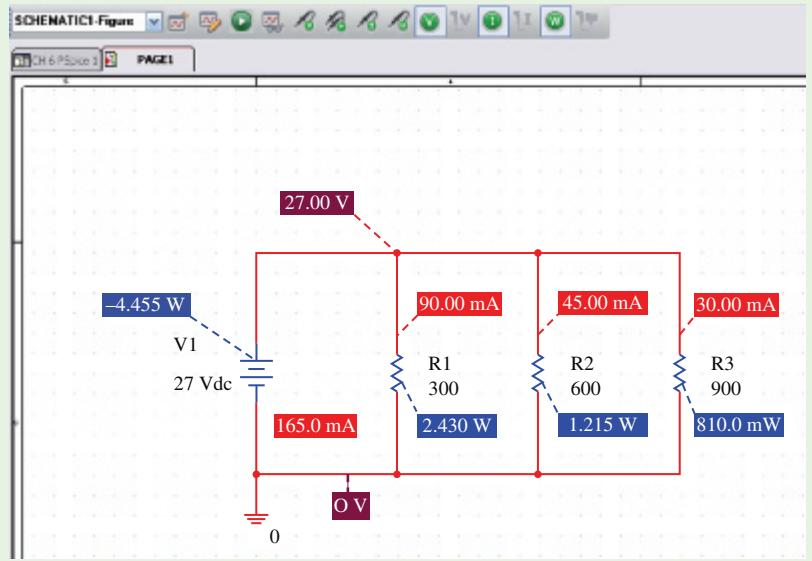

FIGURE 6-42
- Open the CIS Demo software and construct the circuit as illustrated in Figure 6-42.